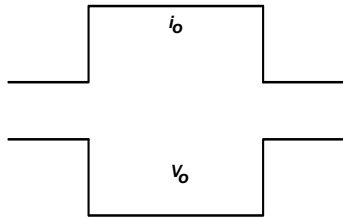
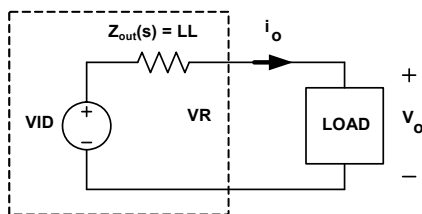

FIGURE 23. DESIRED LOAD TRANSIENT RESPONSE WAVEFORMS
FIGURE 29. VOLTAGE REGULATOR EQUIVALENT CIRCUIT
Assuming the compensator design is correct, Figure 23 shows the expected load transient response waveforms if  $C_N$  is correctly selected. When the load current  $I_{core}$  has a square change, the output voltage  $V_{core}$  also has a square response.
Figure 23 shows the desired load transient response waveforms. Figure 29 shows the equivalent circuit of a voltage regulator (VR) with the droop function. A VR is equivalent to a voltage source (= VID) and output impedance  $Z_{\text{out}}(s)$ . If  $Z_{\text{out}}(s)$  is equal to the load-line slope LL, i.e., a constant output impedance, then in the entire frequency range,  $V_o$  will have a square response when  $I_o$  has a square change.